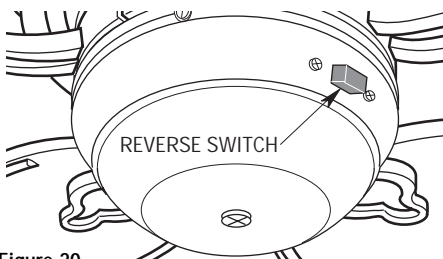

Figure 20
3. All fans are shipped from the factory with the reversing switch positioned to circulate air downward. If airflow is desired in opposite direction, turn your fan off and wait for the blades to stop turning, then slide the reversing switch to the opposite position, and turn fan on again (Figure 20).